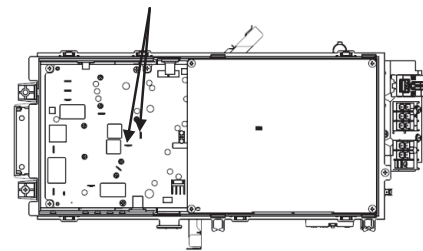

Fig.2 Position of terminal
**(Be sure to measure voltage (DC) between T26 and T27 on inverter PCB, and check that the voltage is discharged sufficiently(10V or less).**(Refer to Fig.2))